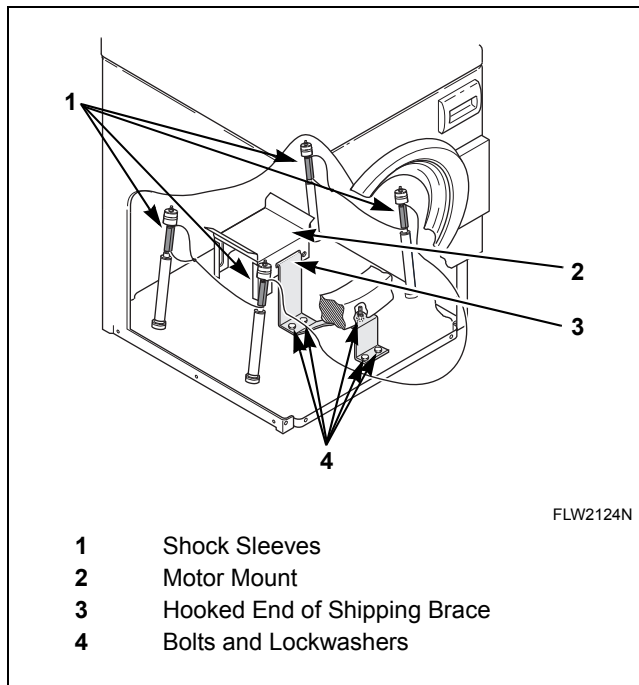

Figure 48
- Place the shock sleeves on all four shock absorbers. Refer to *Figure 48*.
- Insert hooked end of shipping brace into the open slot of the motor mount. Refer to *Figure 48*.
- Attach the brace with the five bolts and washers. Refer to *Figure 48*.